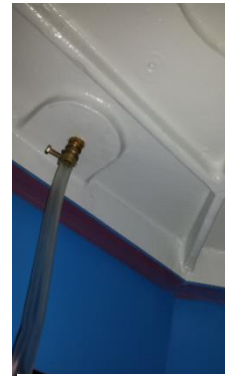
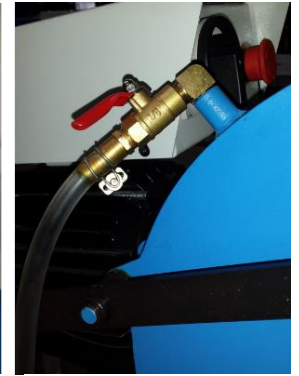

Fig. 5
Fig. 6
6. Now connect the hoses, the short hose has to be connected to the drain of the saw, which is located under the base plate of the saw body in the pedestal (fig.5). Slide the hose over the valve and secure it with the clamp. Put the long hose through the same hole as the power cable (fig.4) and then connect it to the valve on top of the blade guard, this hose also has to be secured with a hose clamp (fig.6).